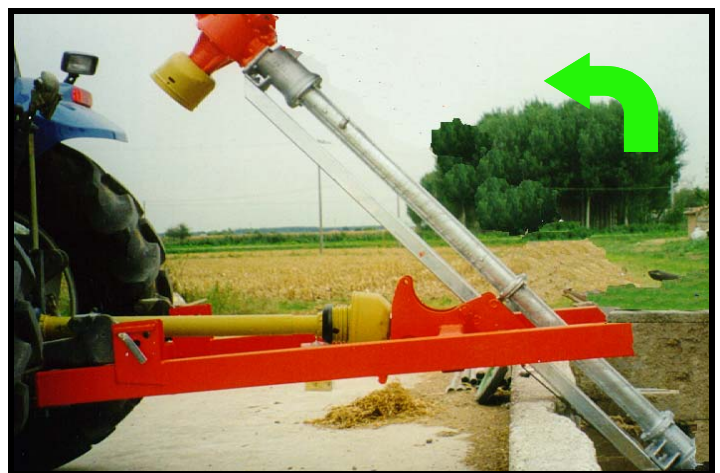

fig. 13
- Move tractor forward so that the pump lies on the truck on one side and on the wall’s edge on the other fig. 13.